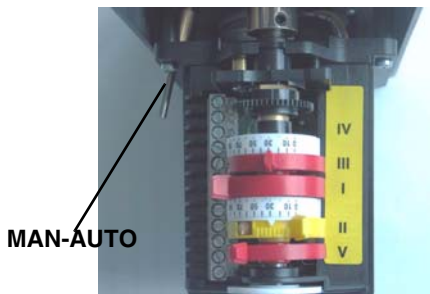
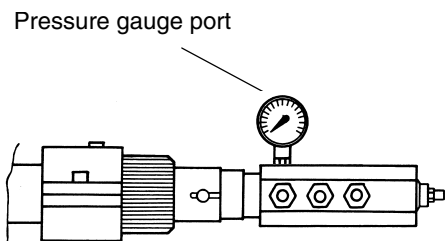

Fig. 17
Fig. 18
- 2 bleed the air from the **M** pressure gauge port (Fig. 17) by loosening the cap without removing it, then release the solenoid starter.
- 7 the nozzle supply pressure is already factory-set and must not be changed. Only if necessary, adjust the supply pressure as follows (see related paragraph); insert a pressure gauge into the port shown on Fig. 18 and act on on the pump adjusting screw **VR** (see Fig. 17) as to get the nozzle pressure at 25bar (Fluidics nozzles - see diagram on page 21).